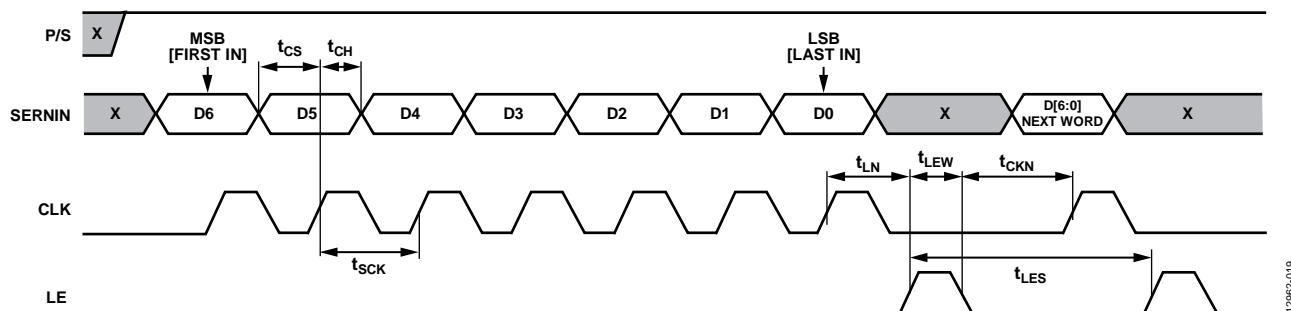

Figure 23. Serial Control Timing Diagram
The HMC1119 utilizes a 3-wire serial to parallel (SPI) configuration, as shown in the serial mode timing diagram (see Figure 23): serial data input (SERNIN), clock (CLK), and latch enable (LE). The serial control interface activates when the P/S pin is set to high.